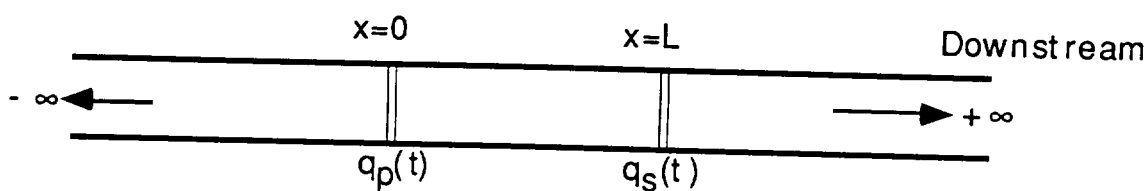
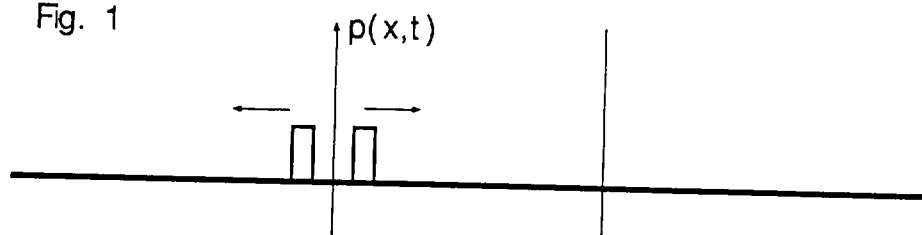

Fig. 1
Fig. 2
a) Figure 1, below, depicts the pressure distribution in the duct immediately after the primary source has emitted a rectangular sound pulse.
- If the secondary source is to completely cancel the downstream radiation, draw on Fig.2 the output of the secondary source at time $t=L/c$ after the time represented in Fig. 1.
- Draw on Fig. 3 the total pressure distribution within the duct due to both the primary and secondary sources, at time $t=L/c$ after the time represented in Fig. 1, and assuming complete downstream cancellation.